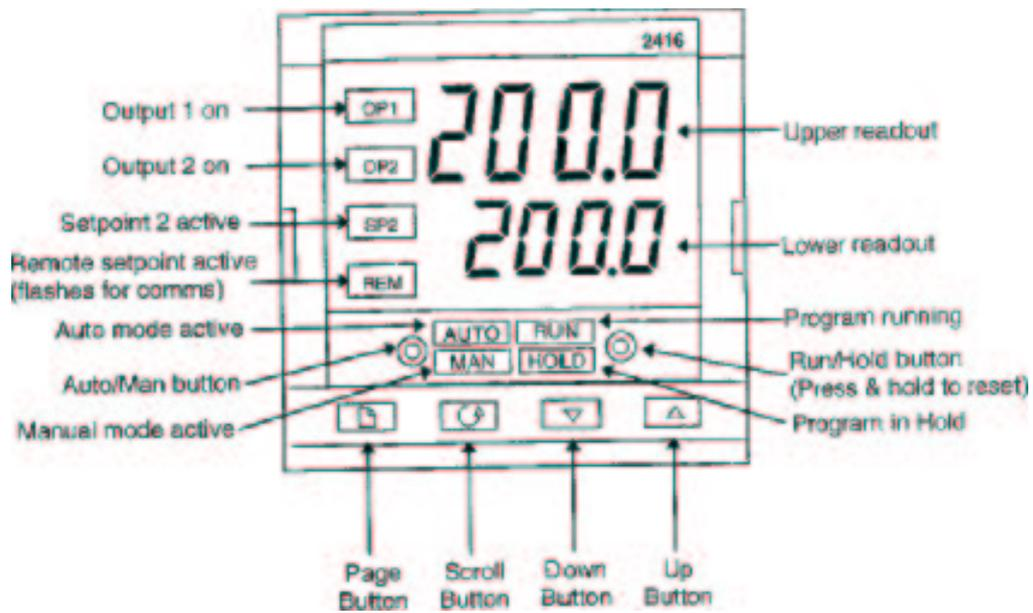

Figure 2: Eurotherm 2416 Front Panel
10. Press and hold the *Run* button (see Figure 2) on the Eurotherm 2416 controller for about 3 secs. The *Run Light* should go out, if it was on.